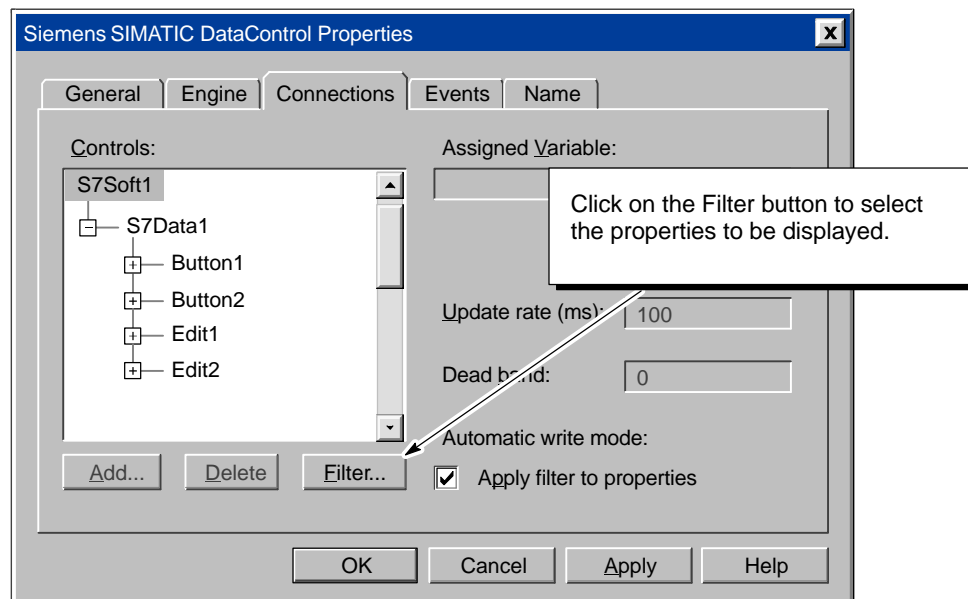

Figure 4-6 Selecting the Properties to Filter
2. Click on the Filter button (see Figure 4-6).